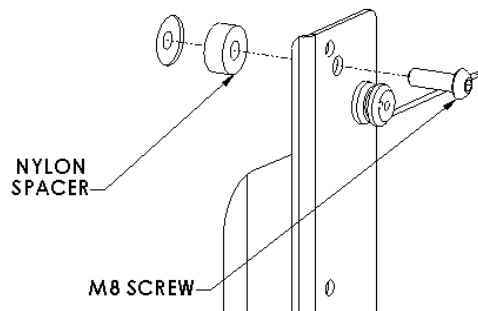
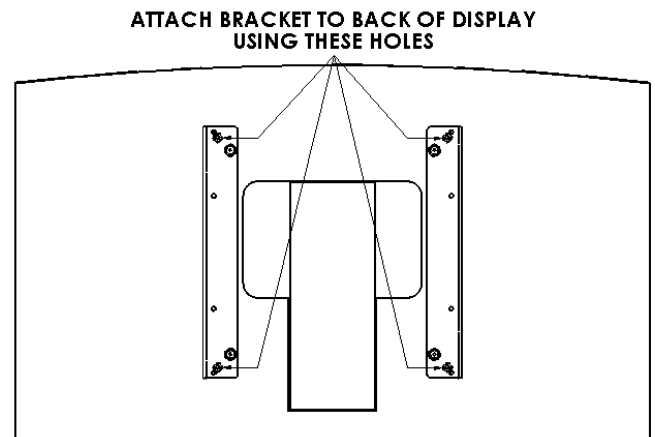

Figure 4
Figure 5
2. Place Nylon spacers over mounting holes on back of screen. Attach mounting brackets to the display using the M8 screws (see Figure 4 & Figure 5).